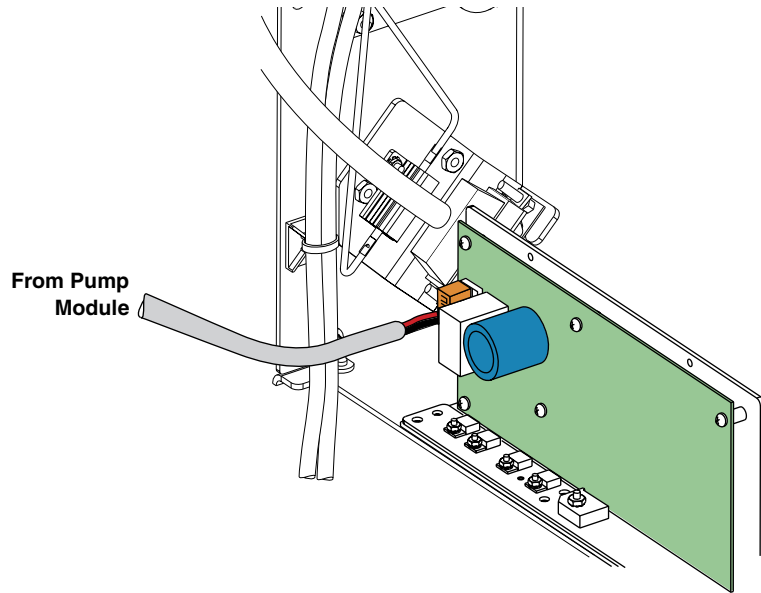

Figure 2-6 P110 Connection on BD3
5. Connect the orange connector labeled BD3 P110 to P110 on the Power Drive Circuit Board (Figure 2-6).